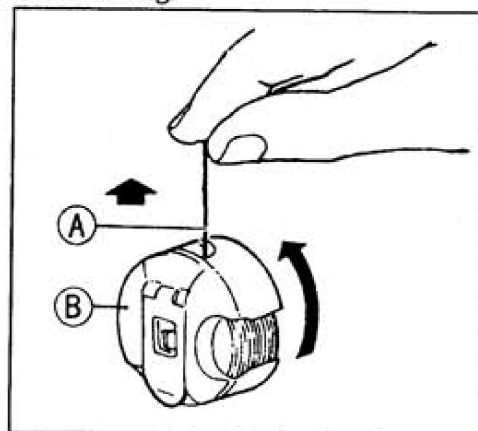

Fig. 12
It is common practice to test the bobbin test the bobbin thread tension as shown in Fig.12 . Hold the end of the thread from delivery eye. If the bobbin case is falling slowly, the proper tension is obtained. The needle thread tension can be adjusted by setting (1) the take-up spring tension. (2) the thread take-up spring stroke and (3) tension spring. All these adjustments will be described in the following.